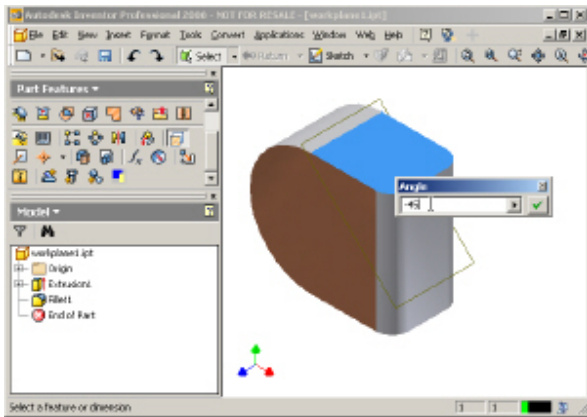
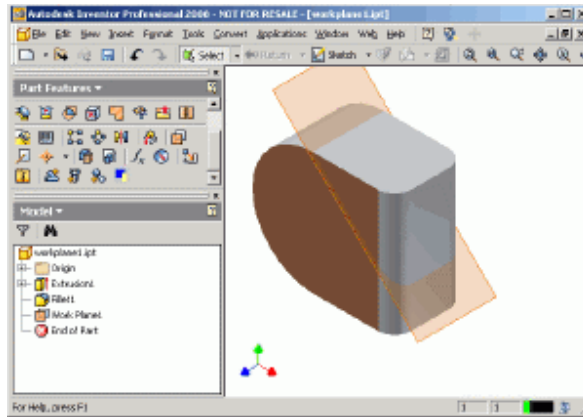

Figure 11: Select Plane, then edge - angle
Figure 12: Angled workplane is created.
2. Input the angle in the dimension box (figure 11) that appears. Figure 12 shows the finished workplane.